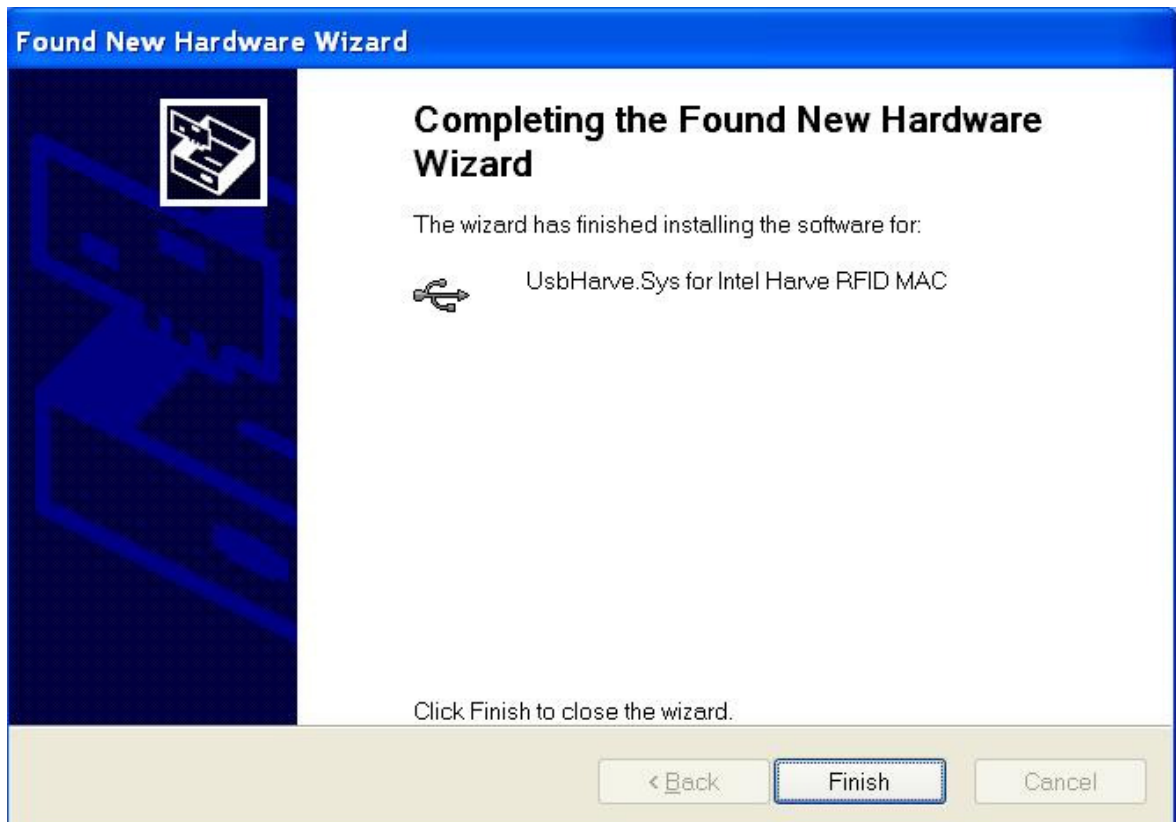

Figure 10
7. Click "Finish" to finalize the installation of the RFID USB device driver, as figure 10.